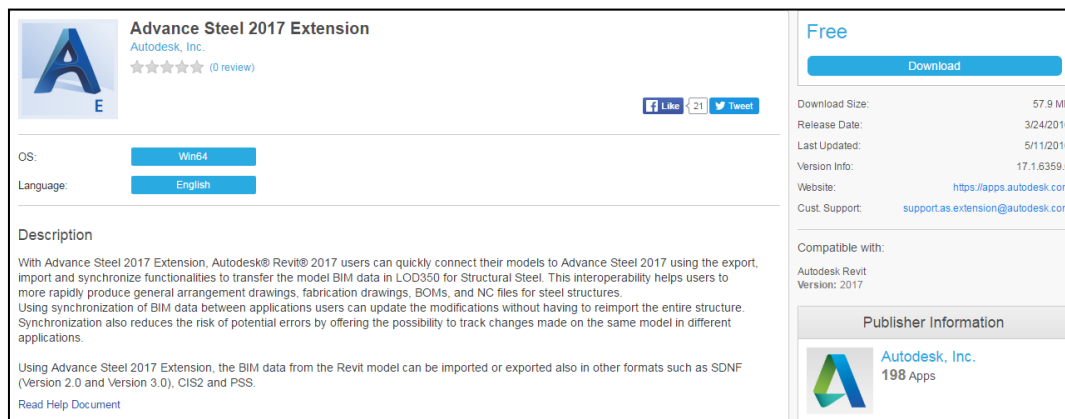

FIGURE 4: THE **ADVANCE STEEL 2016 EXTENSION**
2. On the Exchange Apps store, search for **Advance Steel 2017 Extension**. It is a free Add-In for the Autodesk Subscription customers, as shown in Figure 4.